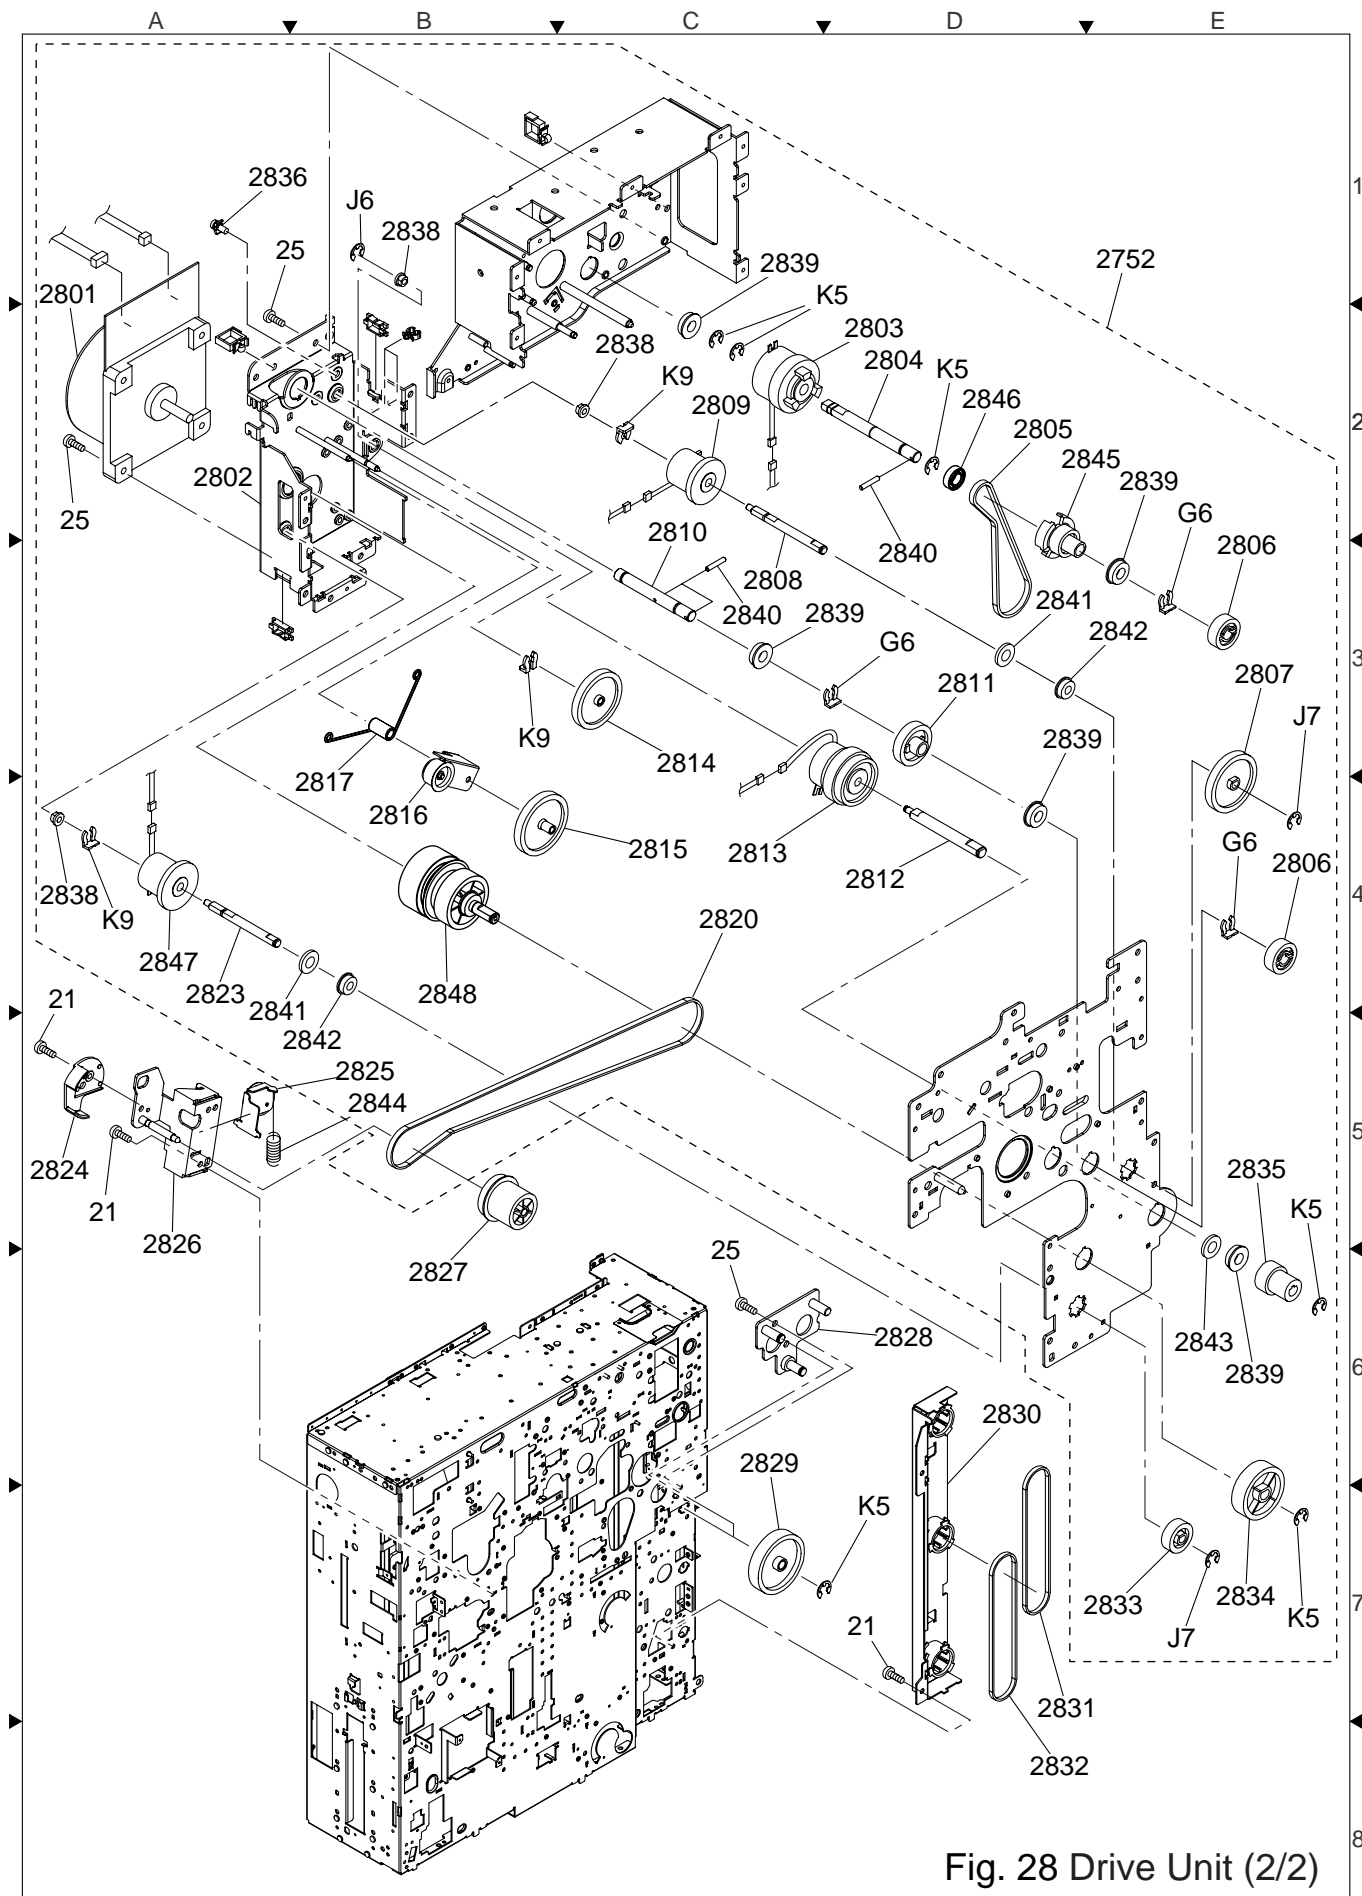

Fig. 28 Drive Unit (2/2)
* This Kit includes the parts shown in Fig. 27, Fig. 28 and Fig. 36.